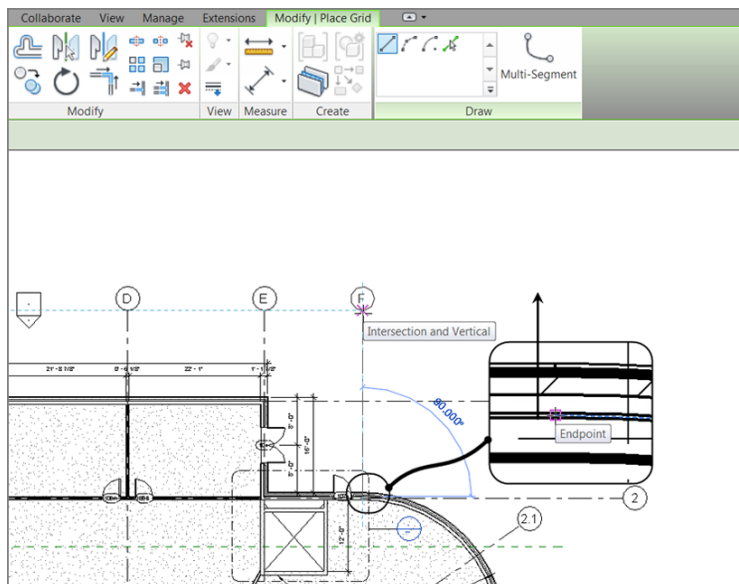

FIGURE 8.18: Adding grid F
9. Pick a start point at the endpoint of the radial wall, where it intersects with the straight wall, as shown near the bottom of Figure 8.18.
10. Pick the second point in line with the adjacent grid bubbles (see Figure 8.18).